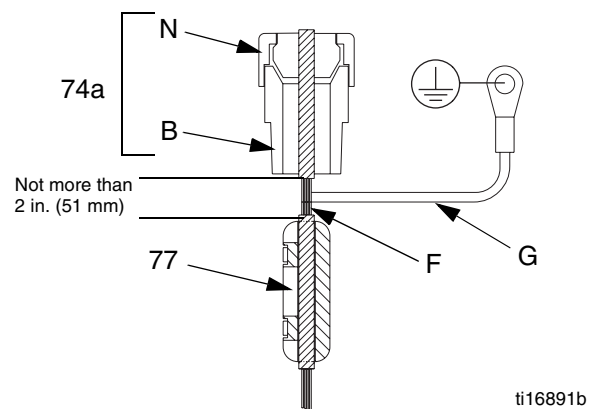

FIG. 11. IS Circuit Field Wire
19. Thread the IS field wire and shield through the conductive strain relief (74a) and connect it to J2 and J3. See FIG. 11 and the **Electrical Diagrams**, page 12.
20. See FIG. 11. Tighten the nut (N) on the conductive strain relief (74a) securely. Install the ferrite (77) on the field wire (F), not more than 2 in. (51 mm) from the bottom of the conductive strain relief (74a). Install ground wire to grounding screw in junction box.
21. Install the new gasket (33), the cover (34), and six screws (12).
22. Remove the old label (L) from the circuit board cover (34). Attach the new label (L) to the cover.
23. Calibrate the transducer, entering the calibration information found on the new label (L):
24. Reinstall the cover (32) with two screws (12).